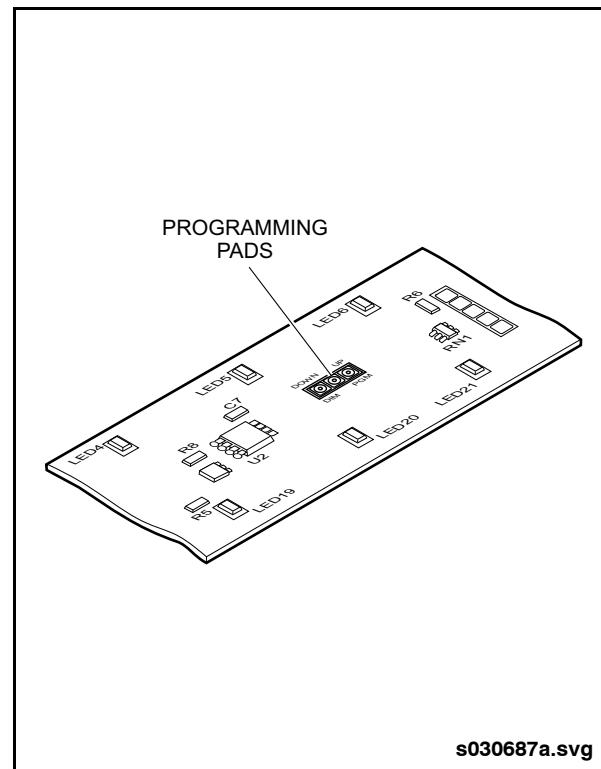

Fig. 9-19: Lighting Board Programming Pads
4. Locate the three programming pads on the clever lighting board. The programming pads are labeled "DOWN UP" and "DIM PGM". See "Fig. 9-19: Lighting Board Programming Pads" on page 40.